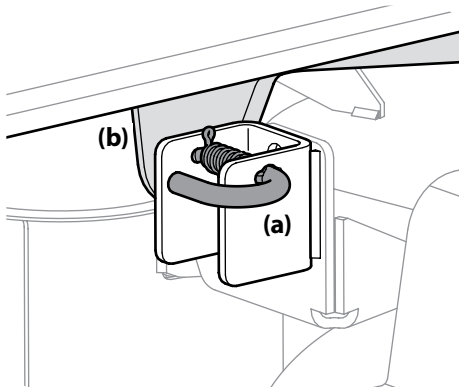

Figure 4-19
10. Locate the LH and RH deck release pins (a) on each side of the deck. Pull the deck release pins (a) outward and release the deck from the LH and RH deck lift arms (b). See Figure 4-19.
4. Pull the deck release pins outward and maneuver the deck as necessary to align the holes in the deck lift arms with the pins. Refer to Figure 4-19.